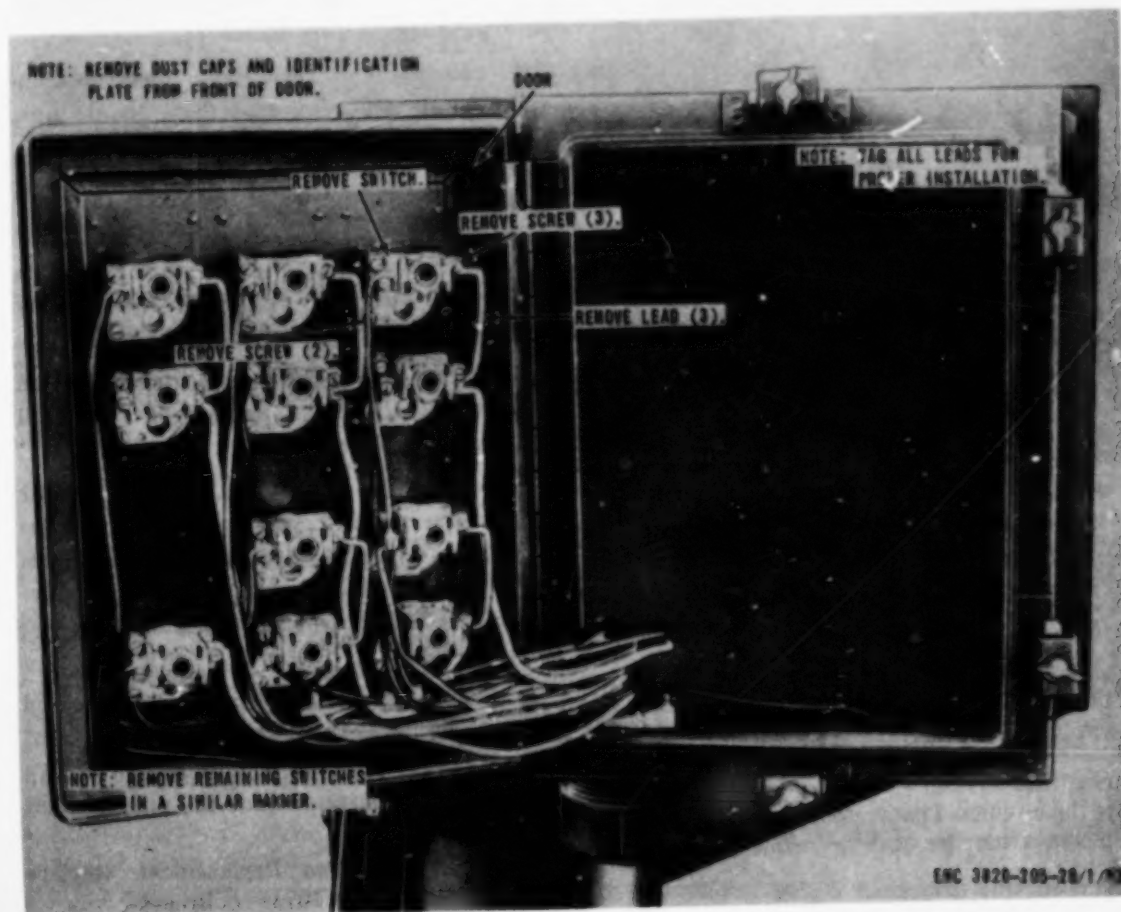

Figure 66. Pushbutton switches, removal and installation.
a. Removal. Remove the pushbutton switches from the control box as instructed on figure 66.
c. Installation. Install the pushbutton switches on the control box in reverse of the instructions on figure 66.